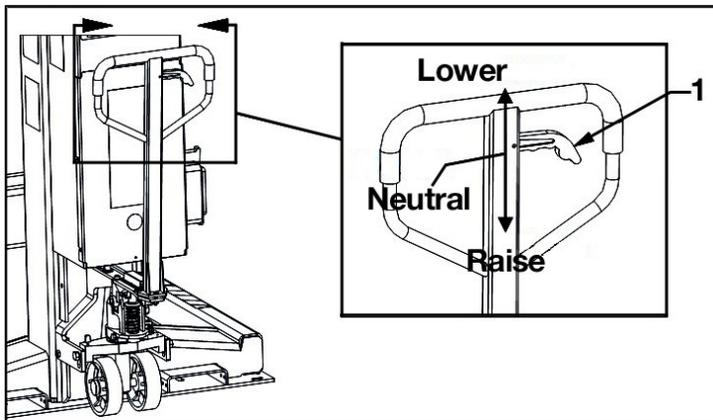

Fig. 14: Handle operation
1. To move the lift unit for positioning, push down on the actuating lever (Fig. 14) to move it into the Raise position.